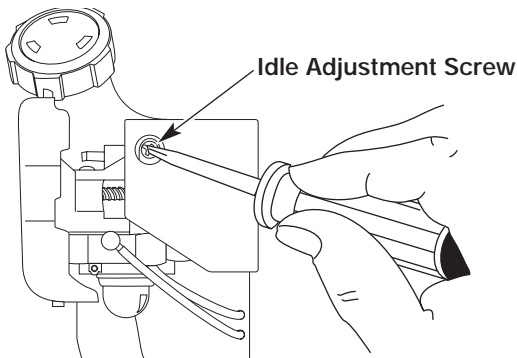

Fig. 40
The idle speed of the engine is adjustable. An idle adjustment screw is reached through a hole in the top of the engine cover (Fig. 40).
2. Release the throttle trigger and let the engine idle. If the engine stops, insert a small phillips or flat blade screwdriver into the hole in the air filter/muffler cover (Fig. 40). Turn the idle speed screw in, **clockwise**, 1/8 of a turn at a time (as needed) until the engine idles smoothly.